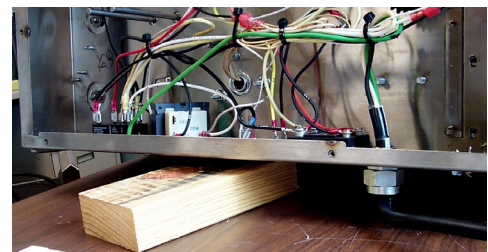

Fig: 3 Rest the unit on a 2x4 or some similar object to avoid stressing the power cord.
- Lay the unit on its back. Use a 2x4 or a similar block under the toaster to avoid stressing the power cord. Fig 3.